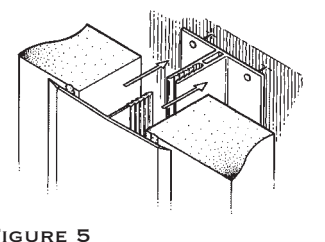

FIGURE 5
6. Guide the top PVC section along insulation board edge until it snaps into the Interlocking System base. (Figure 5)